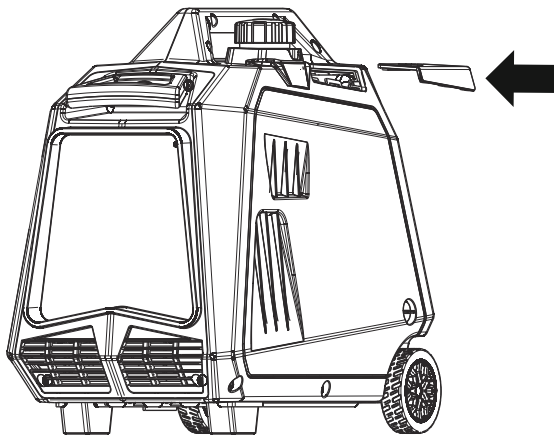

Figure 21: Slide off spark plug cover
3. Slide the spark plug access cover off the housing (see Figure 21).